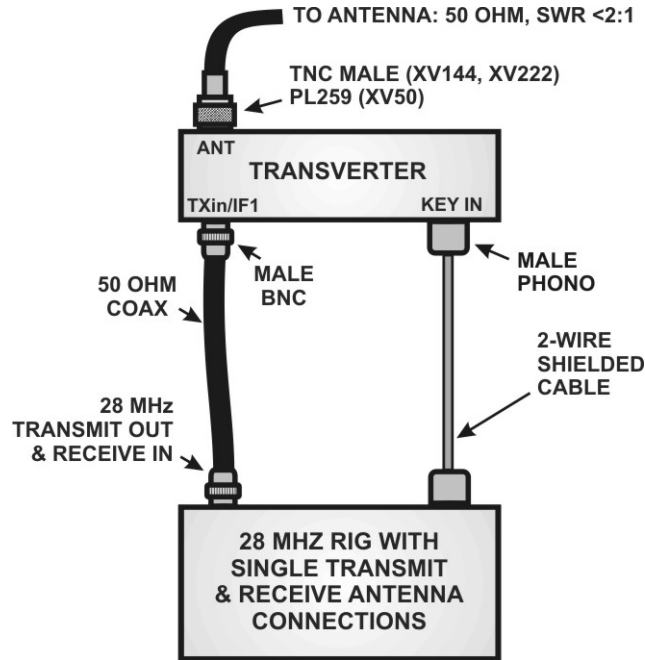

Figure 6. Connecting the Transverter to a Non-Elecraft 28-MHz Rig with a Single Transmit and Receive RF Path.
- Connect the cables as shown in Figure 6.